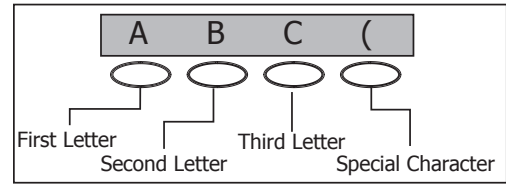

Figure 6: Thinline/Aqualite Select Keys
**Note:** On Security Command, Thinline and Aqualite keypads, when instructed to press the first Select key, press the far left Select key; the second Select key is the second from the left; third Select key is second from the right; and the fourth Select key is the far right key. See Figures 6 and 7.